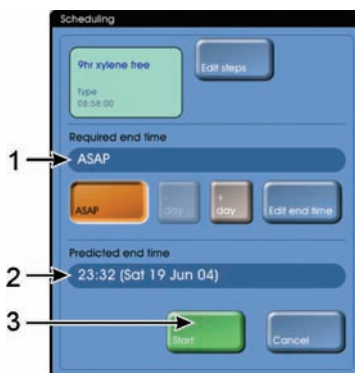

Figure 56: Scheduling dialog box with Required end time (1), Predicted end time (2) and the Start button (3)
8. The "Scheduling" dialog box will now appear (see Figure 56).
10. Check that the predicted end time is acceptable (see item 2 in Figure 56).
11. When satisfied with the scheduling details, select the **Start** button (see item 3 Figure 56).